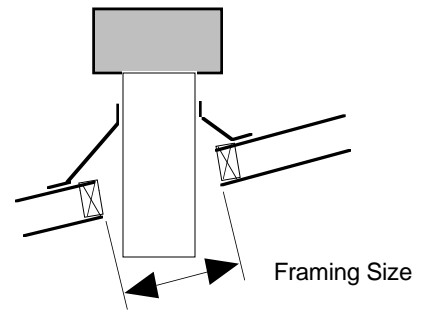

Figure 24
- The table below may be used to determine the appropriate framing size (see Figure 24). When installing into a sloped roof, it is important to determine the size of the framing for clearance purposes. Use the appropriate column for 2 x 4 or 2 x 6 rafters. It is not necessary to frame around the hole opening if the clearance to combustibles can be maintained between two rafters.